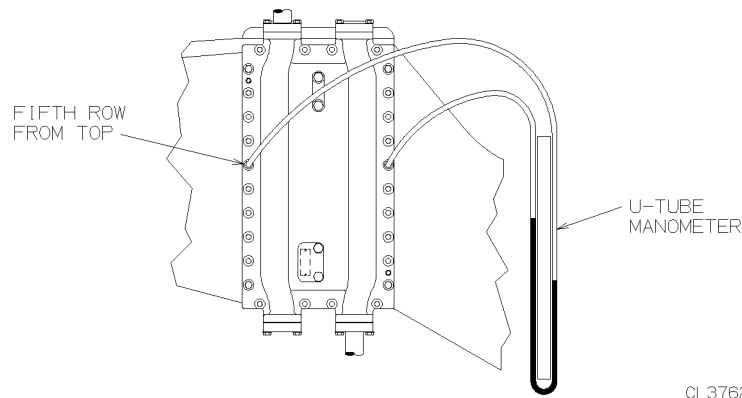

Figure 10-5. Reading Differential Pressure Across Aftercooler .
1. With engine shut down or at idle, remove two aftercooler cover mounting bolts as shown in Figure 10-5. Install two drilled bolts fitted with hose stems into the bolt holes.